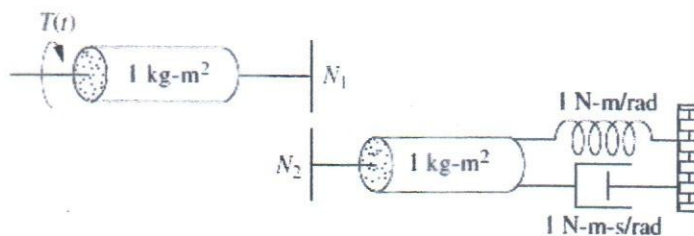
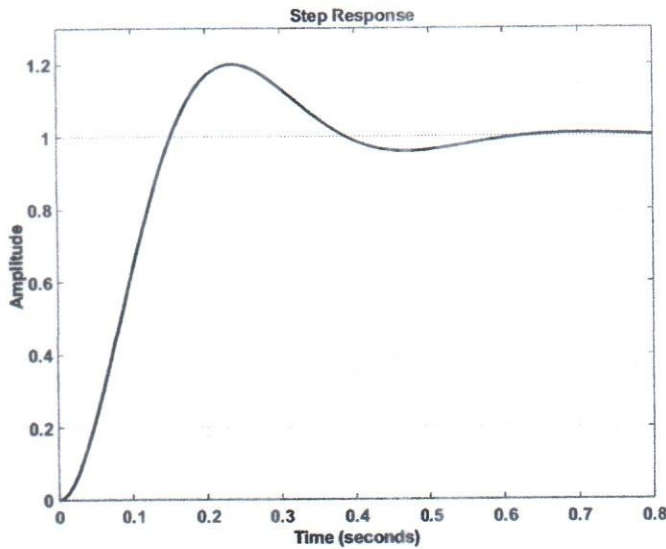

Figure 2: A rotational mechanical system with gears
Figure 3: A step response of a mechatronic system
- b) A suitable gear ratio is to be selected for a rotational mechanical system shown in Figure 2. The gear ratio selected is expected to produce the step response in Figure 3. Design for the gear ratio required to meet the system performance requirement. (10 Marks)